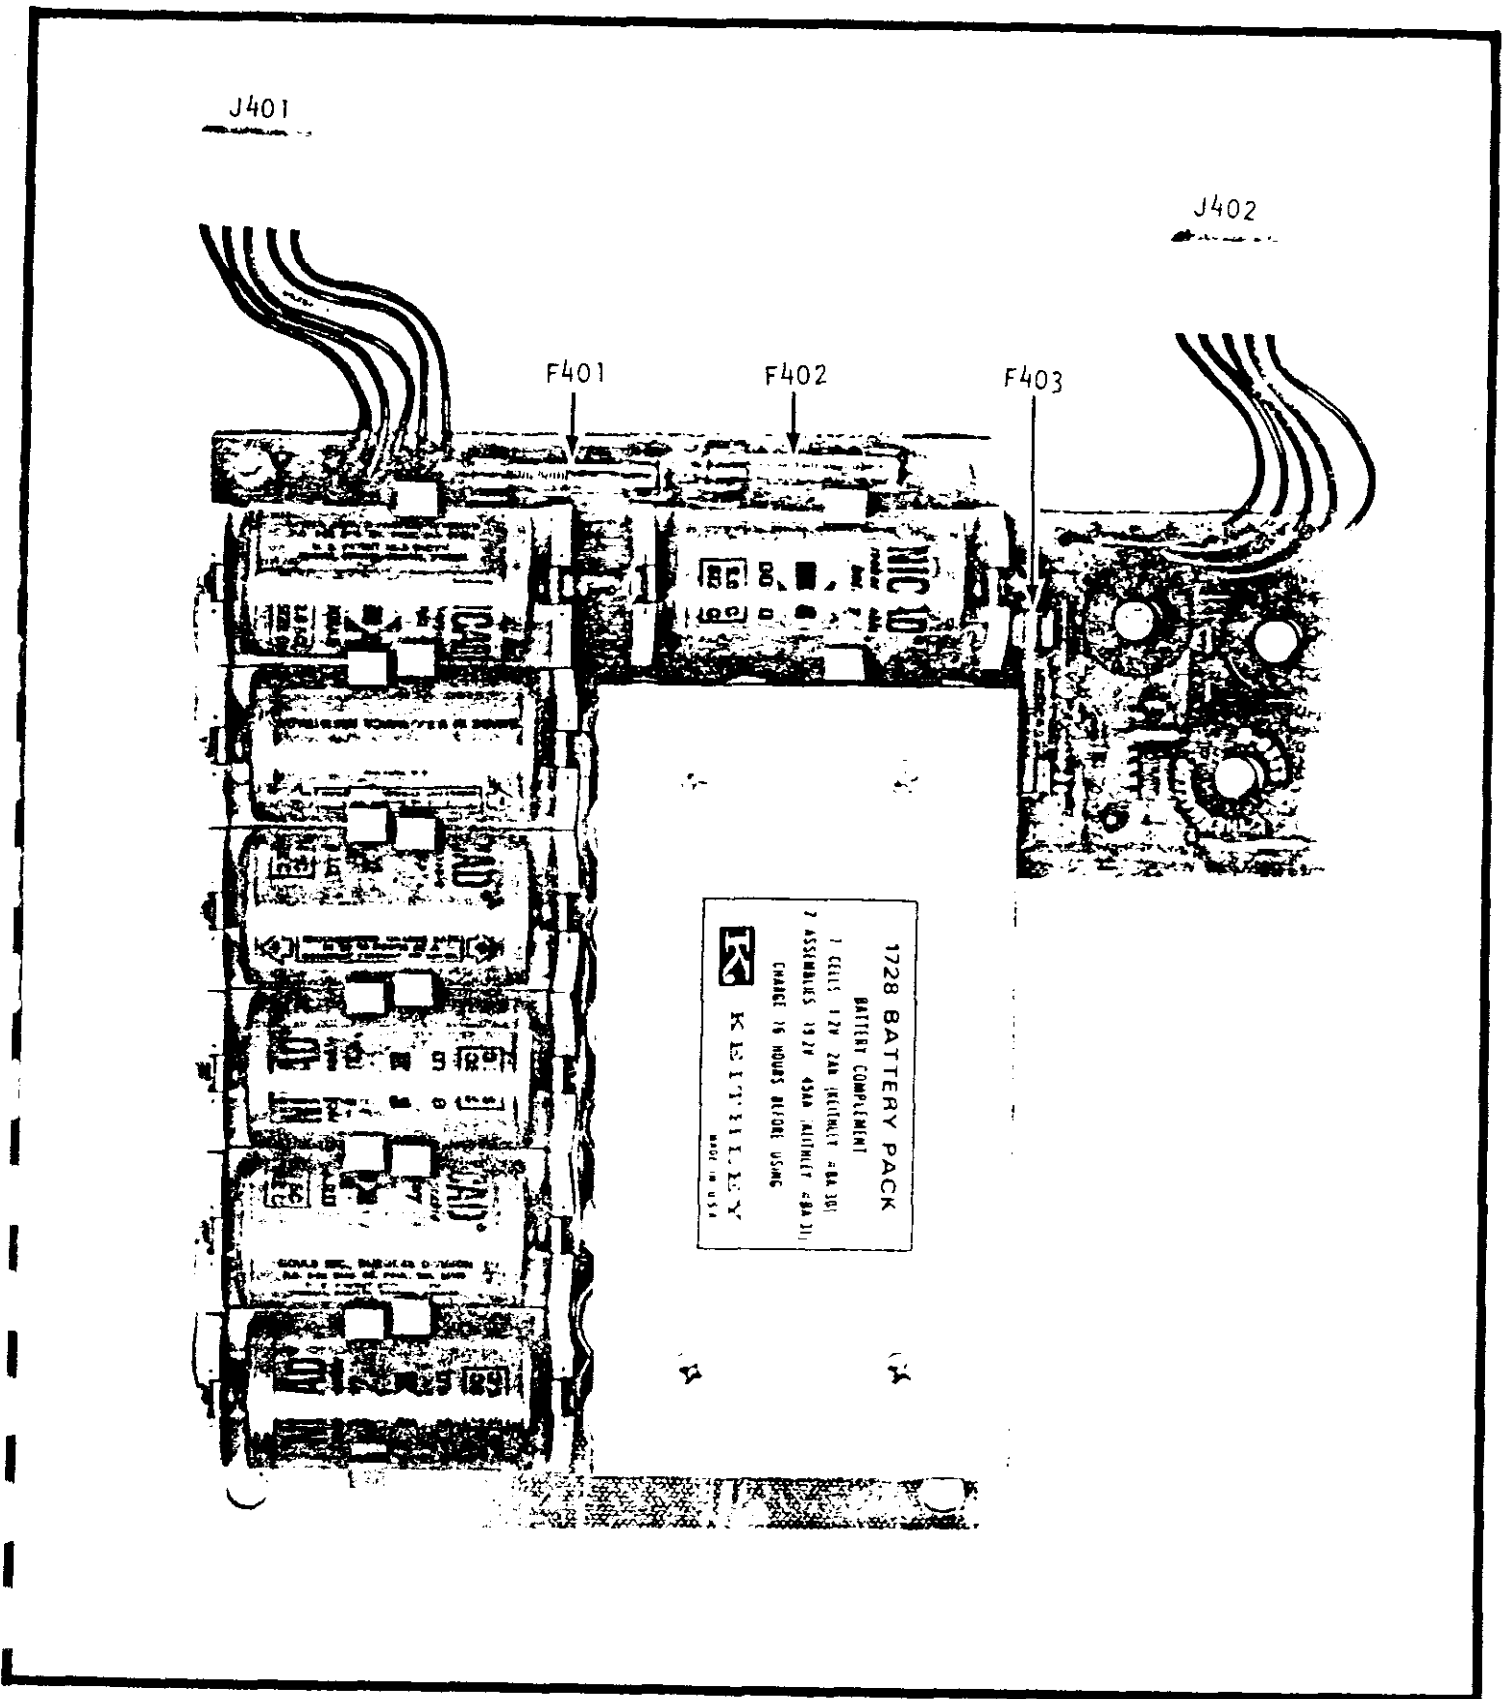

FIGURE 6. Model 1728 Rechargeable Battery Pack.
1. How to Install the Model 1728 Rechargeable Battery Pack. The batteries furnished with the Model 1728 are already installed in the battery pack. The battery pack includes 7 rechargeable "C" cells (1.2V, 2 AMP Hr) and two 19.2 volt packs (sixteen 1.2V-cells per pack). See Figure 6.
b) Check for proper installation of batteries in the Battery Pack. If replacement battery cells are to be installed, be certain to observe the proper polarity of the individual cells as shown in Figure 6.